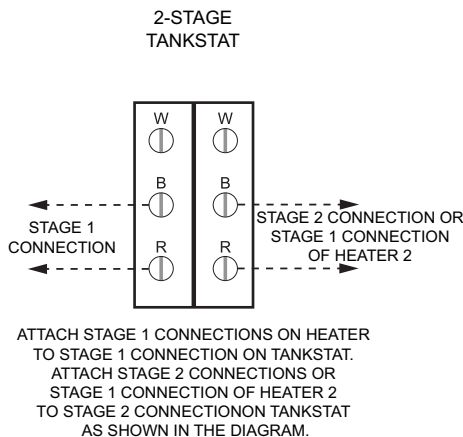

Fig. 25: 2-Stage Tankstat
- For 2-stage controller connections, connect each stage of the control to the corresponding stage of the CPW board in the heater, i.e., stage 1 of the heater to stage 1 of the control; stage 2 of the heater to stage 2 of the control, as shown in Fig. 22 and Fig. 25. Set the operating control to the set-point at which you want the heater to maintain. Ensure that the sensing bulb of the control is at the point in the system that will best maintain the temperature you want. For example, when you are heating a tank of water, you want the operating control sensor bulb in the tank.